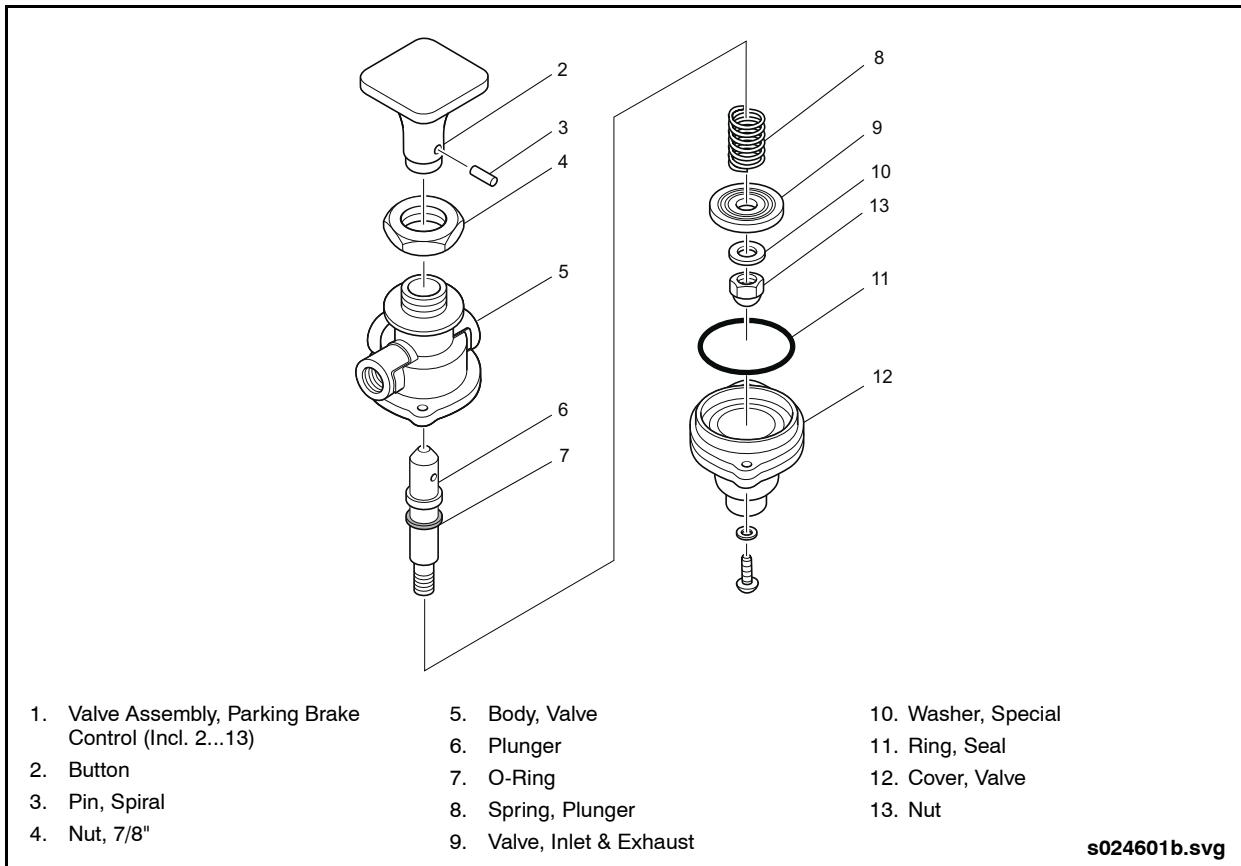

Fig. 8-26: Parking Brake Control Valve Assembly
2. Insert a small punch through roll pin hole in stem and remove lock nut with a 7/16" wrench. See "Fig. 8-26: Parking Brake Control Valve Assembly" on page 85.